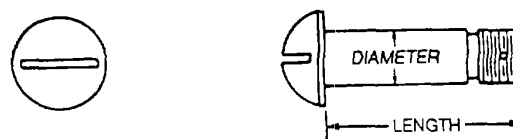

Figure 2-7. Clevis Bolt
*k. Clevis Bolts.* Clevis bolts, as shown in figure 2-7, are used in applications subject to shearing stress only. They are frequently used as mechanical pins in control systems. The head is round and slotted.